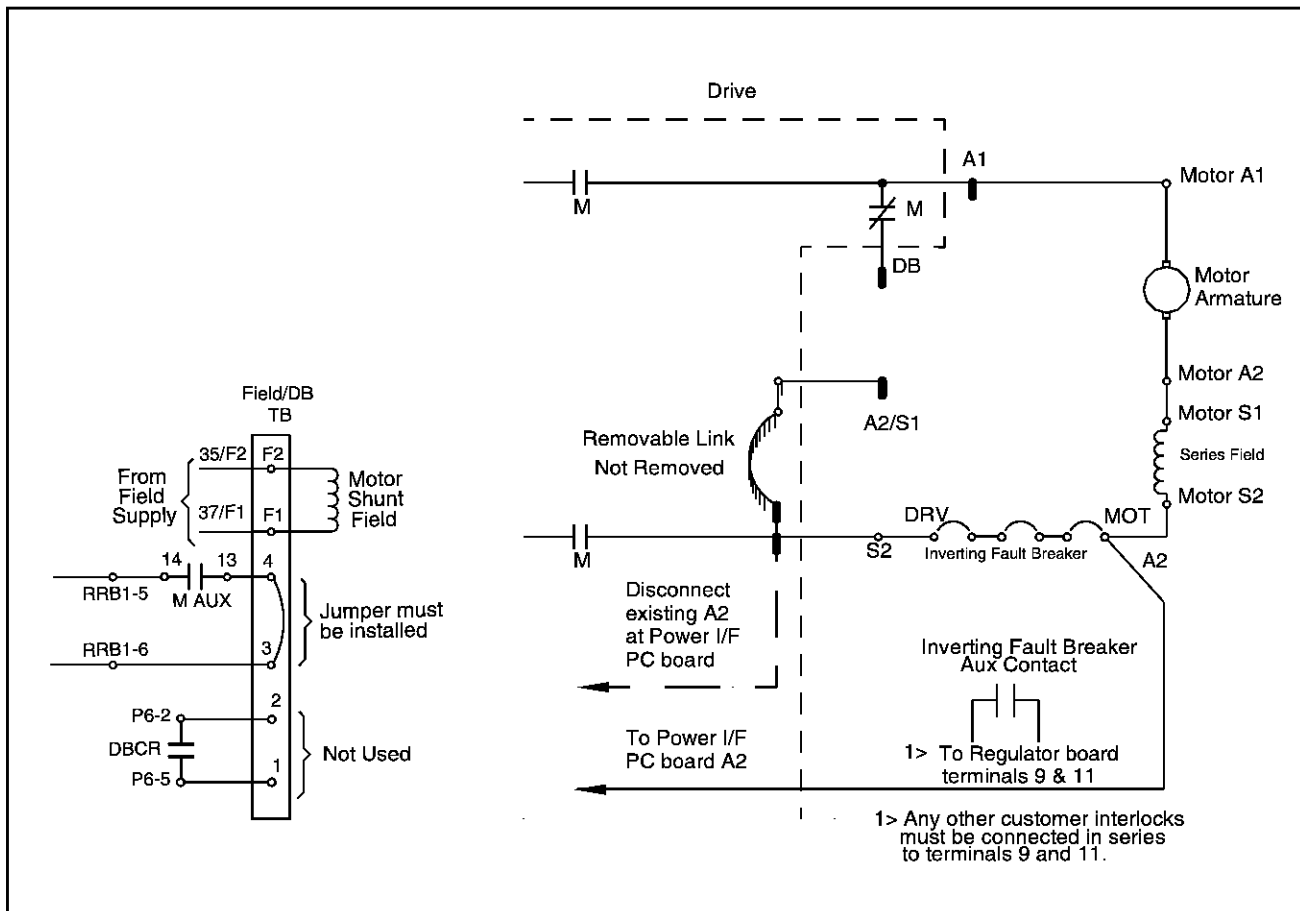

Figure 4 – Inverting Fault Circuit Breaker with Series Field (S1 to A2)
- Step 1. Refer to figure 4. Connect motor series field lead S2 to Inverting Fault Circuit Breaker terminal MOT. (See figure 9 for the location of the breaker's MOT terminal.) Terminate the breaker side of the leads with lugs of the appropriate gauge.